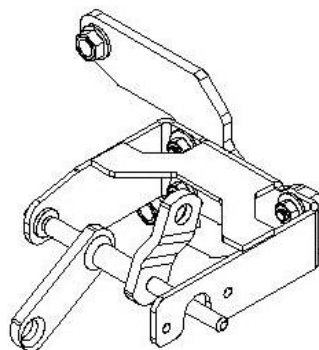

Figure 8
49. Locate transfer case linkage u-bracket, mounting plate, and **HK #119** (figure 8)